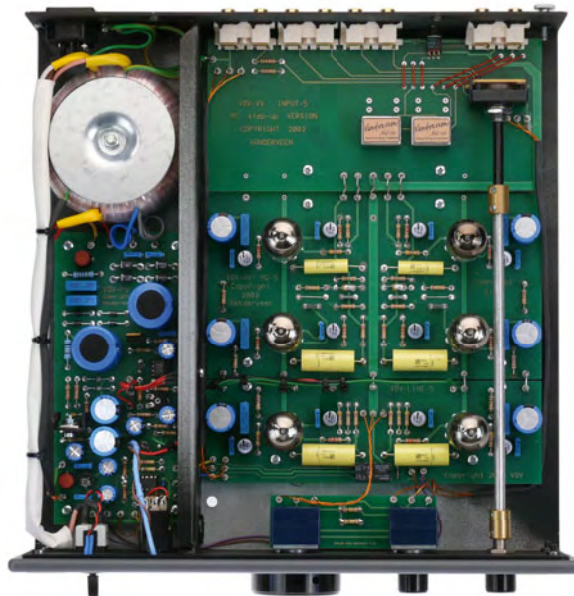

Figure 1. Interior view of the MCML05 preamplifier. The special MC transformers can be seen at the rear, next to the input connectors.
When developing the concept for the preamplifier, Menno van der Veen was clearly more interested in sound quality than technical perfection (i.e. minimal distortion). The signal path of the MCML05 is very simple and consists of a volume control and a balance control (both from Alps) followed by a buffer stage consisting of two triodes in a sort of SRPP configuration. Clearly a minimalist design, intended to have minimum effect on the signal passing through. This preamplifier is perfect for vinyl enthusiasts, since the MCML05 includes a two-stage MD preamplifier with a passive RIAA compensation network (see **Figure 1**). To allow it to be used with moving-coil (MC) cartridges, there are two